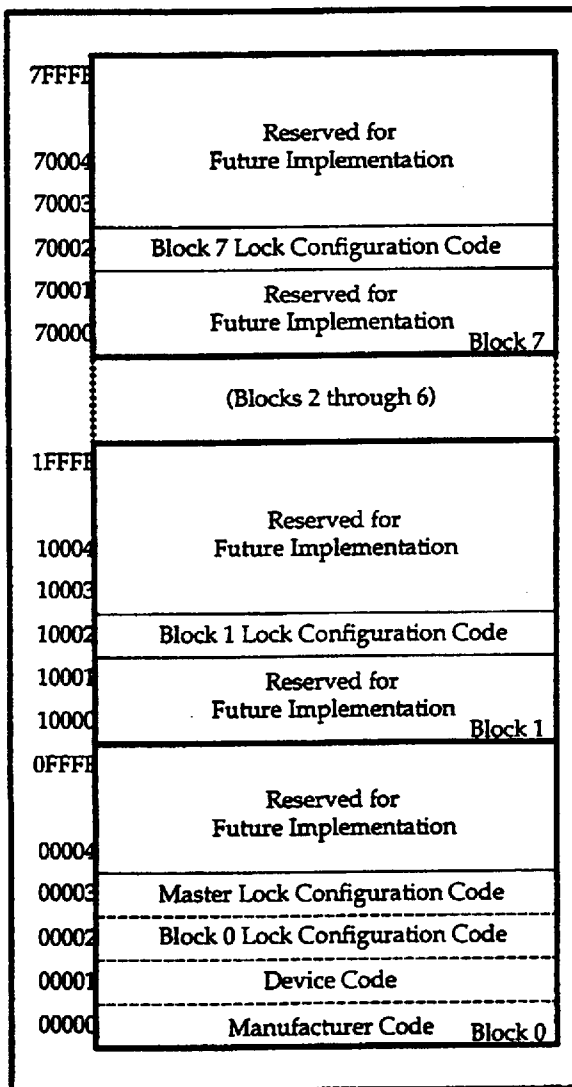

Figure 3. Device Identifier Code Memory Map
The read identifier codes operation outputs the manufacturer code, device code, block lock configuration codes for each block, and the master lock configuration code (see Figure 3). Using the manufacturer and device codes, the system CPU can automatically match the device with its proper algorithms. The block lock and master lock configuration codes identify locked and unlocked blocks and master lock-bit setting.
IA=Identifier Code Address: see Figure 3.
The identifier code operation is initiated by writing the Read Identifier Codes command. Following the command write, read cycles from addresses shown in Figure 3 retrieve the manufacturer, device, block lock configuration and master lock configuration codes (see Table 5 for identifier code values). To terminate the operation, write another valid command. Like the Read Array command, the Read Identifier Codes command functions independently of the V_{pp} voltage and \overline{RP} can be V_{IH} or V_{HH} . Following the Read Identifier Codes command, the following information can be read:
*1. X selects the specific block lock configuration code to be read. See Figure 3 for the device identifier code memory map.